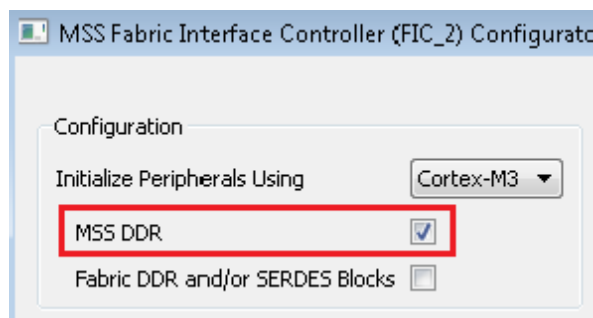

Figure 1-17 • Configuring FIC_2
4. Configure FIC_2 (Figure 1-17) to enable the MDDR subsystem APB interface for configuring the MDDR registers using APB master in the FPGA fabric.